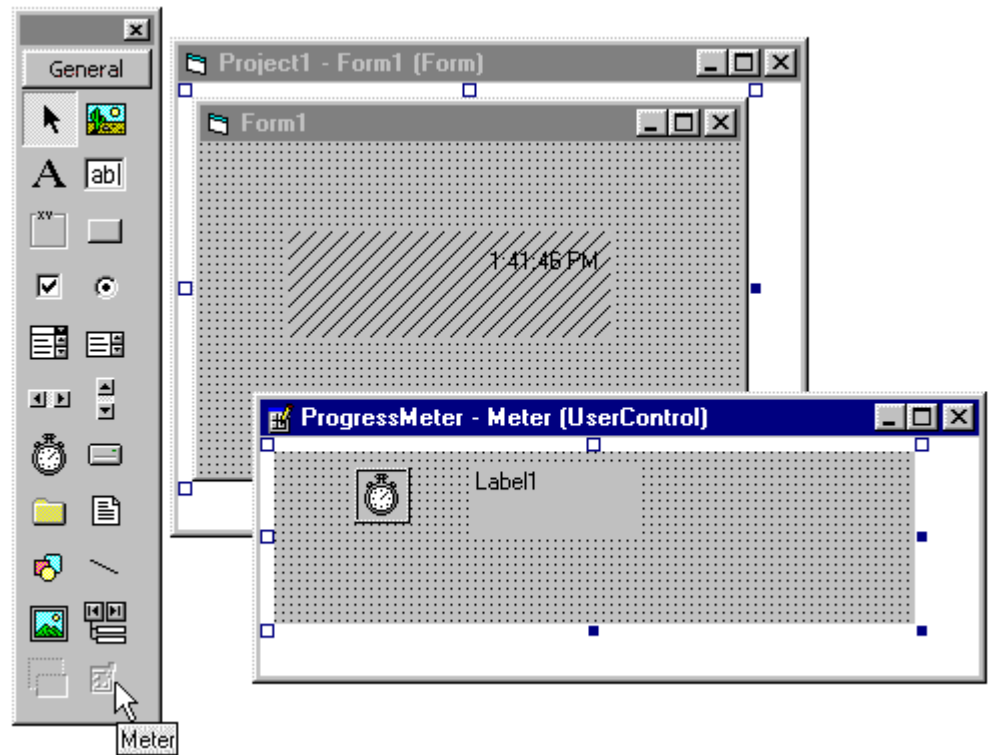

Figure 7. Once the control's open in design view, it's not available on the Toolbox, nor on the sample form.
8. To see what happens when the control is open in design view, **double click on the Meter control in the Project window**. This will open the designer for the control, and will disable the control in the Toolbox and on the sample form. Figure 7 shows this situation.